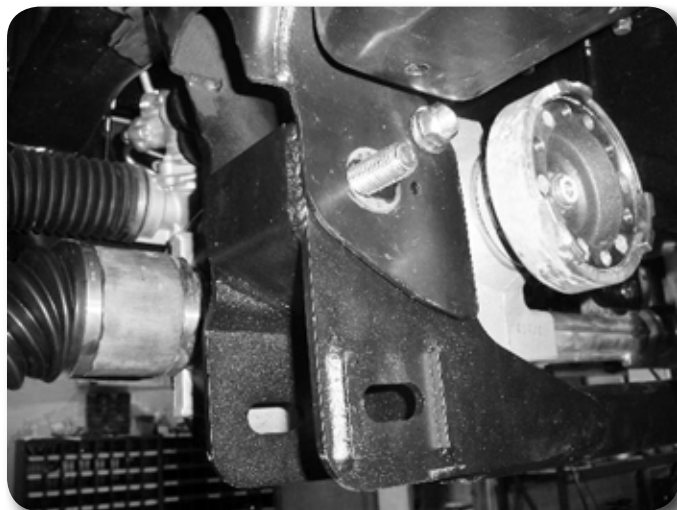

Figure 26
38. Fasten the differential to the rear crossmember **Figure 26** with a 9/16" bolt, washers, and nut. Run the bolt from front to rear. Leave hardware loose.